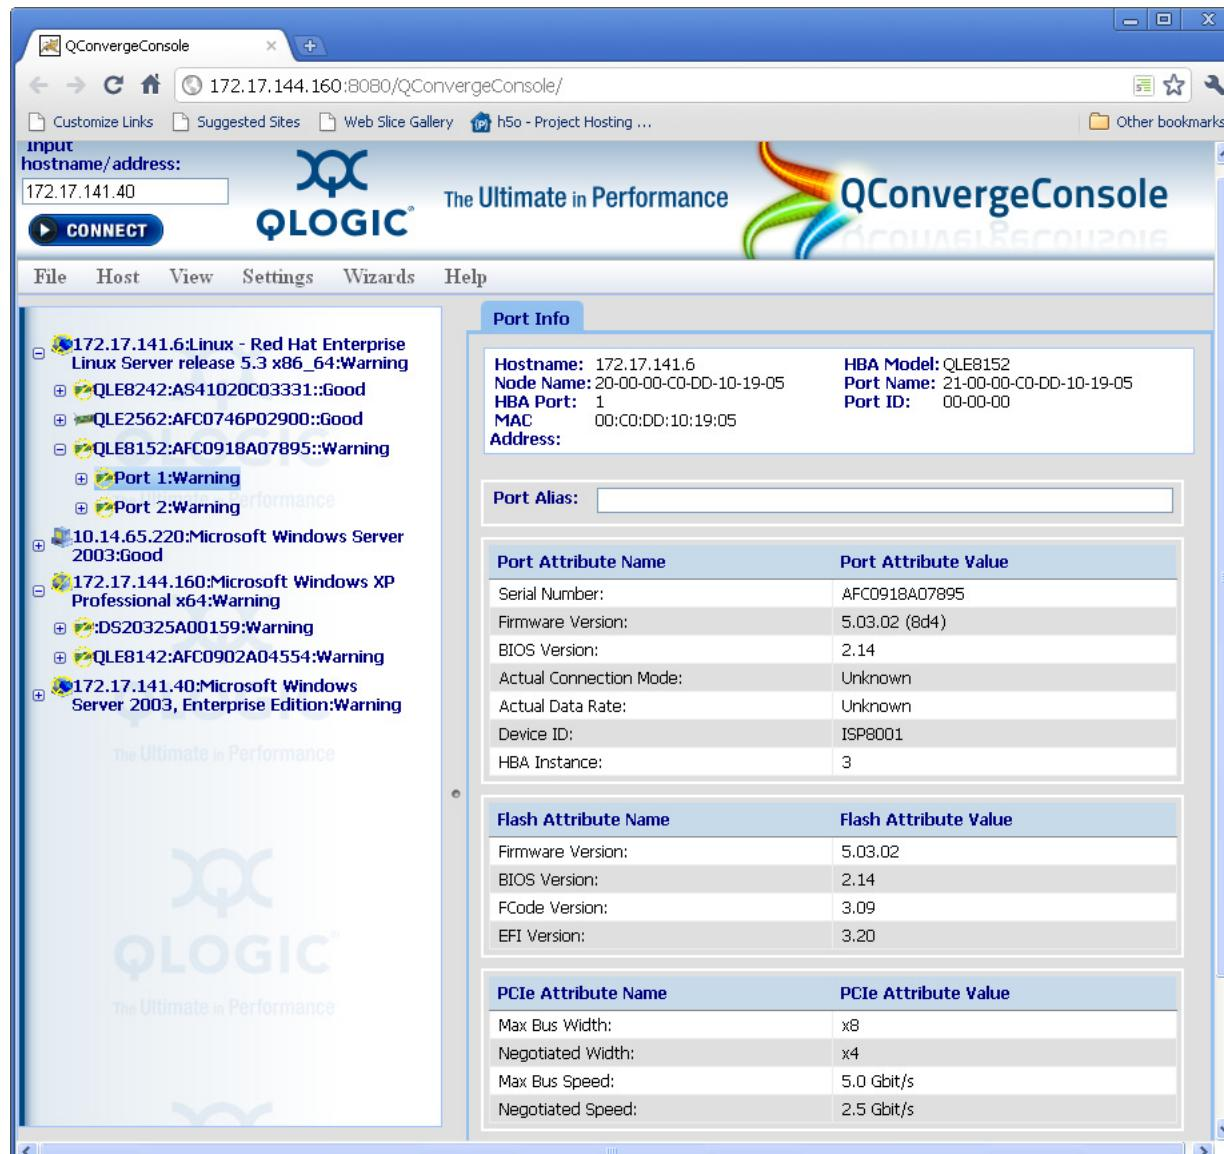

Figure 4-16. Displaying the Adapter Firmware Version
2. In the **General Information** tab (Figure 4-16), the firmware version (FCoE firmware) is listed under Flash Information after the BIOS, FCode, and EFI version information.